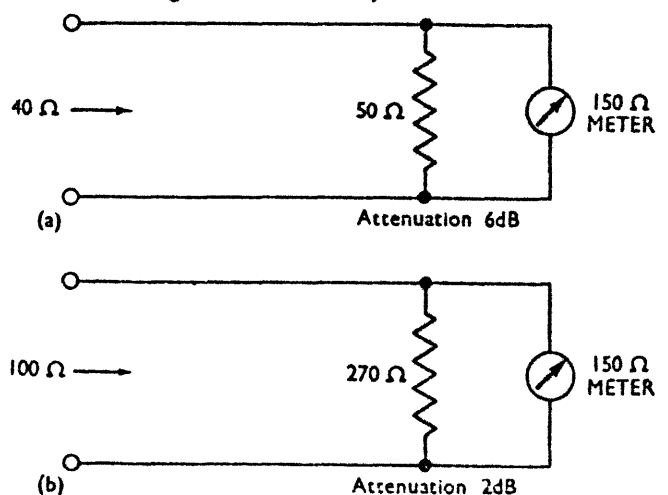

Fig. 2. Output meter matching networks
30. (a) **Connections**.—Input from B.F.O. through 0.1 μ F condenser to junction of C17A, R1B and R7C; return to chassis. Output from pin 4 of PL2A to 100 Ω output meter (if 150 Ω output meter is used, insert matching network shown in fig. 2(b)). Switch "A" on, "B" and "IC" off. Set A.F. gain control to maximum.
- (d) **CW position of system switch**.—Tune B.F.O. for maximum output from set. Check value of this frequency (approx. 1000 c/s). Check output at this frequency (F), at $F \pm 200$ c/s and at $F \pm 500$ c/s.
51. Reconnect R20A to V4A screen. Connect variometer (Mk. III) to set with aerial feeder no. 1, and join 30 pF dummy aerial and 0-1 amp. thermal meter between variometer output and case (meter on earthy side). Alternatively, connect 45 pF condenser to variometer and 10 Ω non-inductive resistance between this condenser and variometer case. Connect valve voltmeter across resistance. (The 10 Ω resistance consists of five 50 Ω 3-watt carbon resistances connected in parallel between two copper discs 2" dia. 2 $\frac{3}{4}$ " apart, the resistances being soldered at equal intervals round the periphery of the discs.) Connect B.F.O. to pin 1 of 12-point plug PL2A *via* potential divider shown in fig. 1. Connect 100 Ω output meter to pin 4 of PL2A (if 150 Ω output meter is used, insert matching network shown in fig. 2(b)). Insert short-circuited plug in key jack.